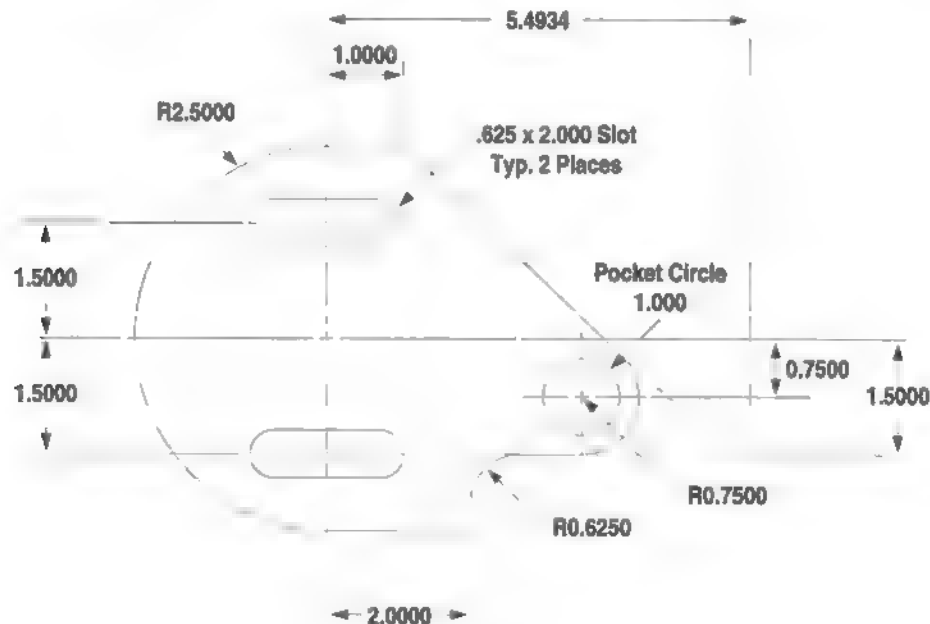

Figure 2-1
The blueprint for the part you are going to cut is shown below in Figure 2-1.
6. Based on the blueprint in Figure 2-1, select your work material and cutter (the part measures 6.8" x 5" and is cut at a 0.25" depth). The cutter should be a 0.25" endmill.